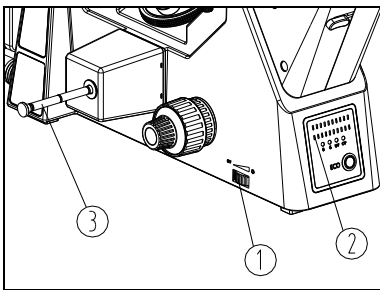

Fig. 30
- (1) Put through the power and turn on the main power switch to “ON”.
- (2) Adjust the reflected light adjustment knob① until the illumination is comfortable for observation. Rotate the reflected light adjustment knob① counterclockwise to raise the brightness, and the number of bright cells on the brightness indicator② will increase. Rotate the reflected light adjustment knob① clockwise to lower the brightness, and the number of bright cells on the brightness indicator② will decrease. (See Fig. 30)